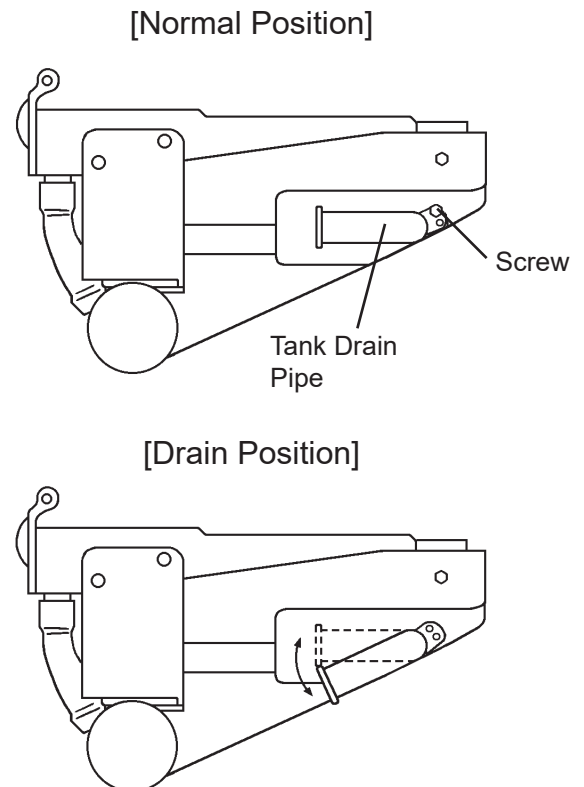

Fig. 2
- 4) Move the tank drain pipe to the drain position. See Fig. 2.
Remove the screw, and move the tank drain pipe to the drain position. See Fig. 2.